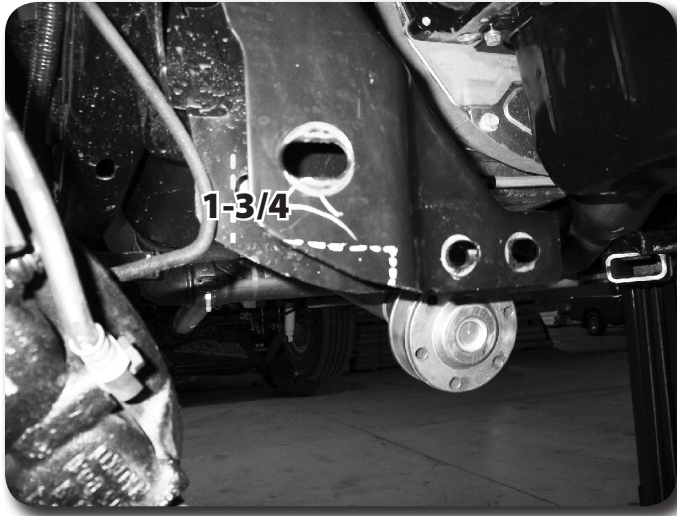

Figure 8
18. The factory rear control arm pockets must also be trimmed to clear the new rear crossmember. Measure down 1-3/4" from the center of the factory control arm slot and make a horizontal cut line. The cut will stop where the vertical offset in the factory mount begins. **Figure 8**